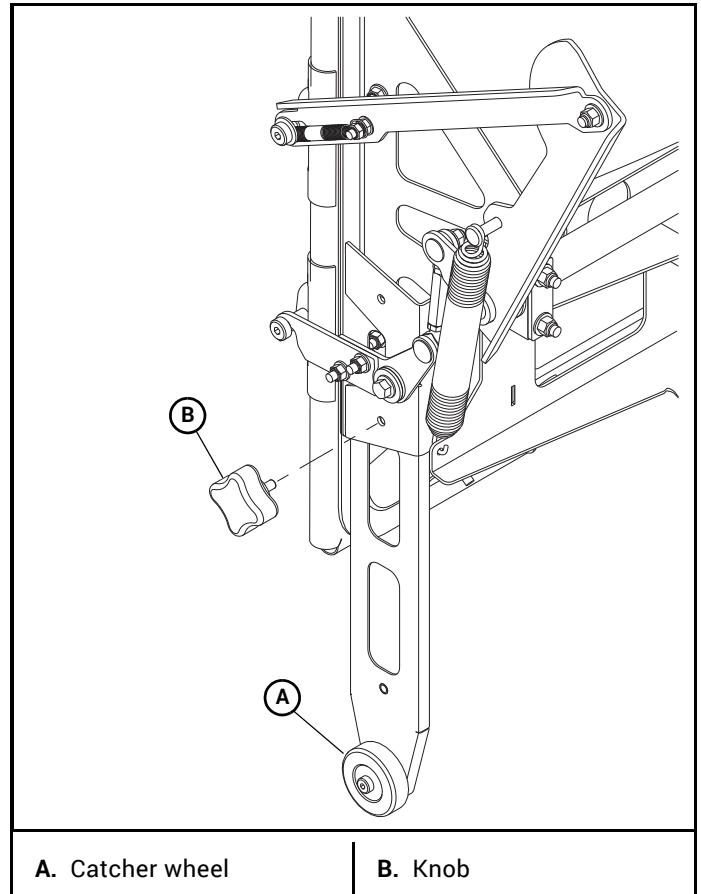

Figure 4-6
2. Lower the catcher wheels into the transport position before disconnecting from the catcher mount frame. Figure 4-6